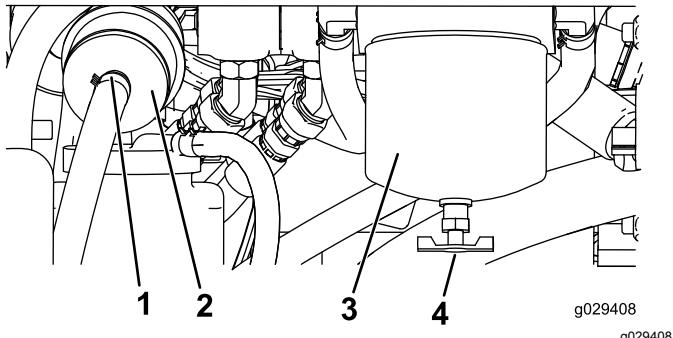

Figure 51
1. Locate the fuel filter on the rear side of the engine (Figure 51) and place a clean container under it.
1. Locate the fuel filters on the right side of the engine (Figure 51) and place a clean container under it.
2. Clean the area where the filter canister mounts (Figure 51).
3. Remove the filter canister and clean the mounting surface (Figure 51).
5. Install the filter canister by hand until the gasket contacts the mounting surface, then rotate it an additional 1/2 turn (Figure 51).
6. Locate the in-line filter behind the fuel filter canister (Figure 51) and note the direction of flow arrow on the side of the in-line filter.
7. Open the clamps on each end of the in-line filter and slide the hoses off it (Figure 51). Discard the filter.
8. Slide the hoses over the end of a new filter (Figure 51), ensuring that the arrow on the filter is pointing in the same direction as the one on the old filter.